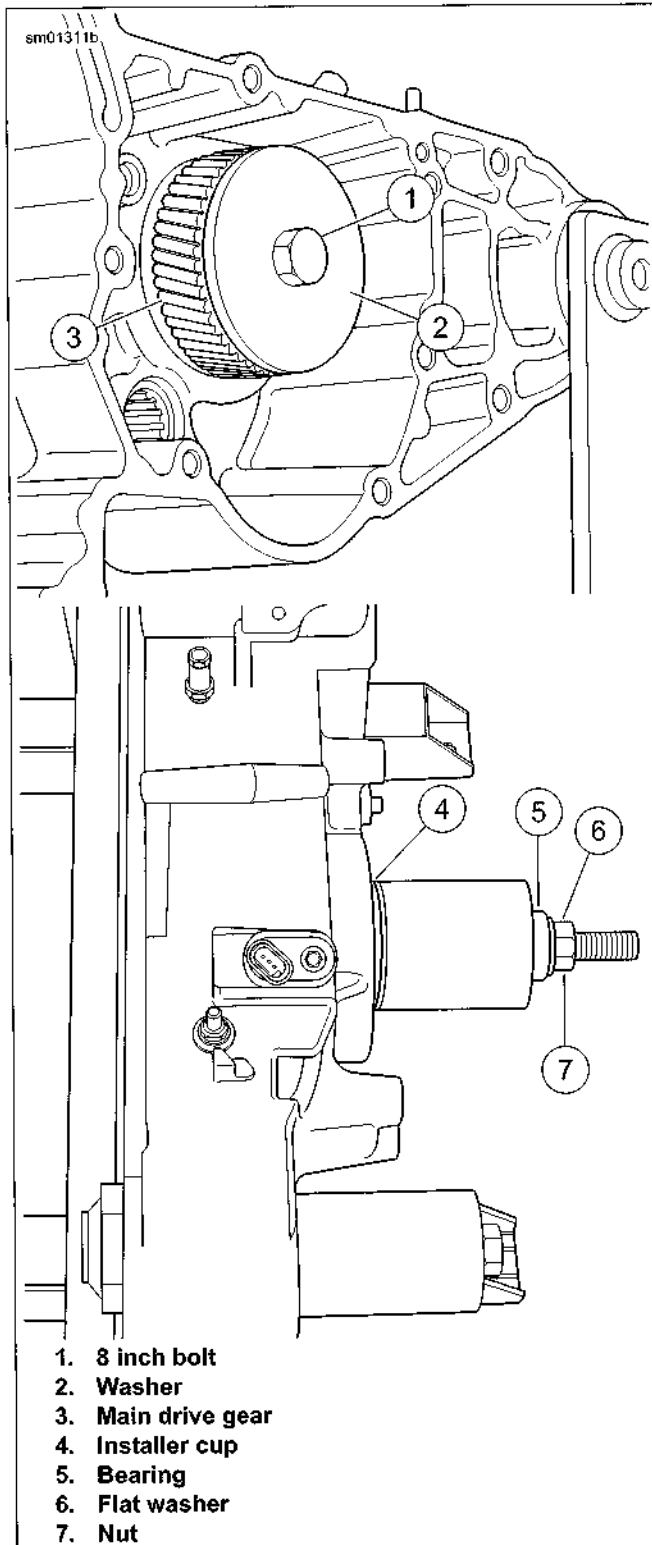

Figure 5-53. Installing Main Drive Gear (typical)
3. See Figure 5-53. Insert 8 INCH BOLT (Part No. HD-35316-4A) (1) through WASHER (Part No. HD-35316-7) (2) and main drive gear (3). From inside of case insert bolt with washer and main drive gear through inner race of main drive gear bearing.
4. At outside of case, place INSTALLER CUP (Part No. HD-35316-12) (4), BEARING (5), FLAT WASHER (6) and NUT
(7) over end of bolt. Tighten nut until main drive gear bottoms against main drive gear bearing.